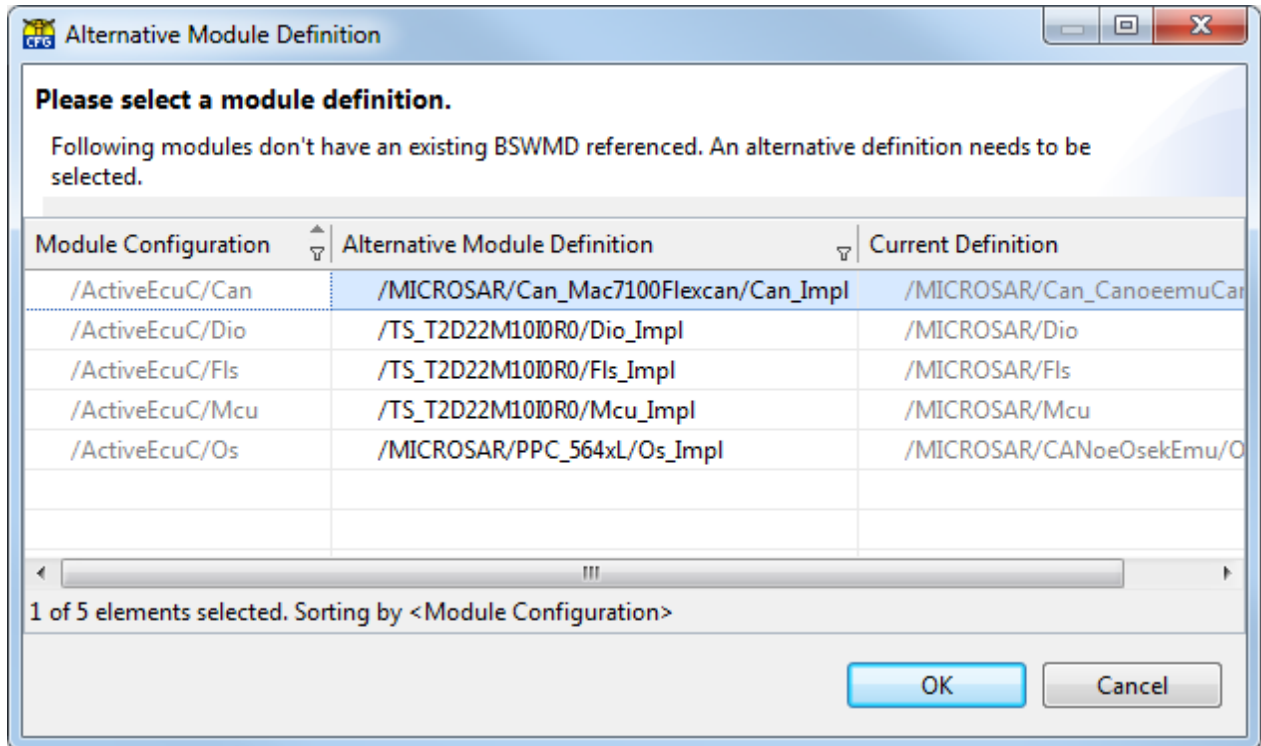

Figure 3-13 Alternative module definition dialog for switching module definitions
3. When the Alternative Module Definition window is shown, select the appropriate module definition for each module. See Figure 3-13 for an example.